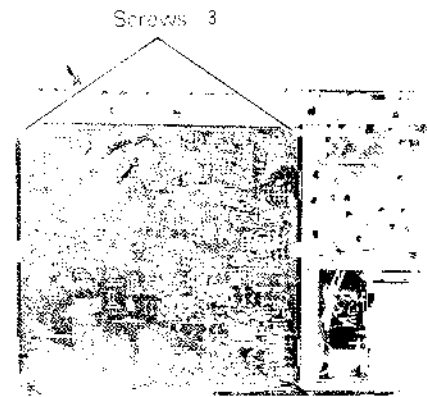

Fig. 4-10
1. Remove the two screws 3 on the printed circuit board as shown in Fig. 4-10.